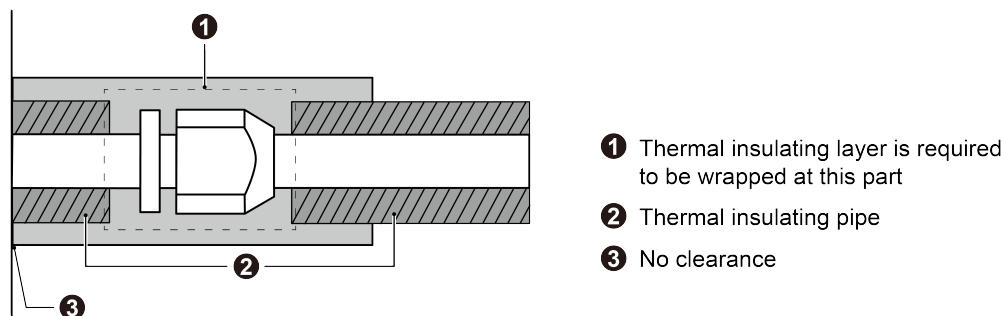

Fig.4.4.7
- 3) Joints at indoor and outdoor units should be wrapped with insulating material and leave no clearance between pipe and wall. See Fig.4.4.7.